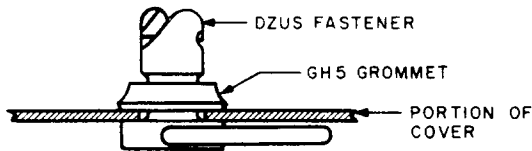

Fig. 5 - Mounting GH5 Grommet on Fastener Stud (Wide Diameter Against Cover)
5.02 Replace the fastener stud as follows. Where the hole in the cover is not large enough to permit the insertion of the fastener, enlarge the hole in the cover using a 3/8-inch drill. Insert the new fastener in the cover from the front of the cover. Insert the fastener through the hole in the cover and then rest the head of the fastener on a hard surface. Place a GH5 grommet over the cam end of the fastener stud so that the wide diameter of the grommet rests on the cover as shown in Fig. 5. Place the